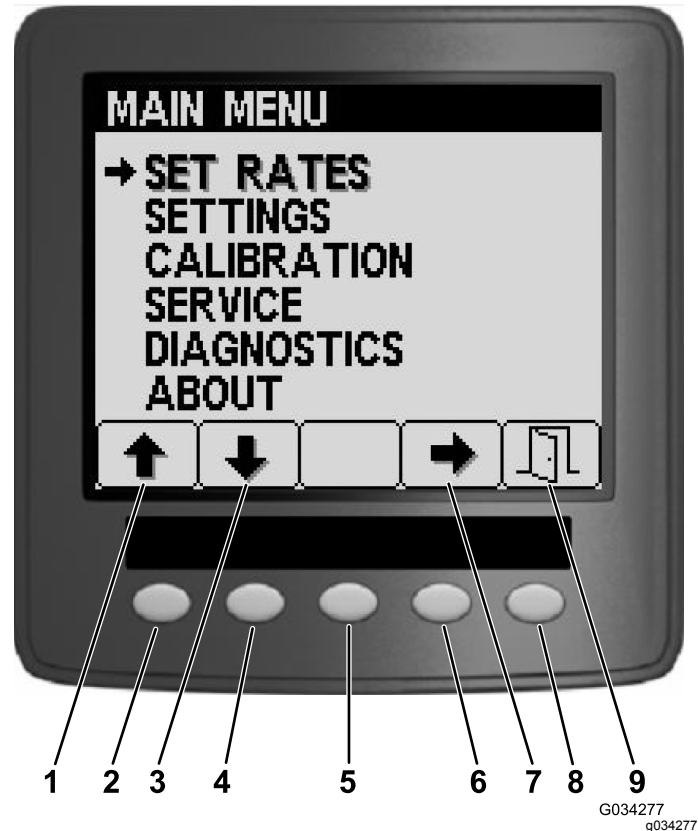
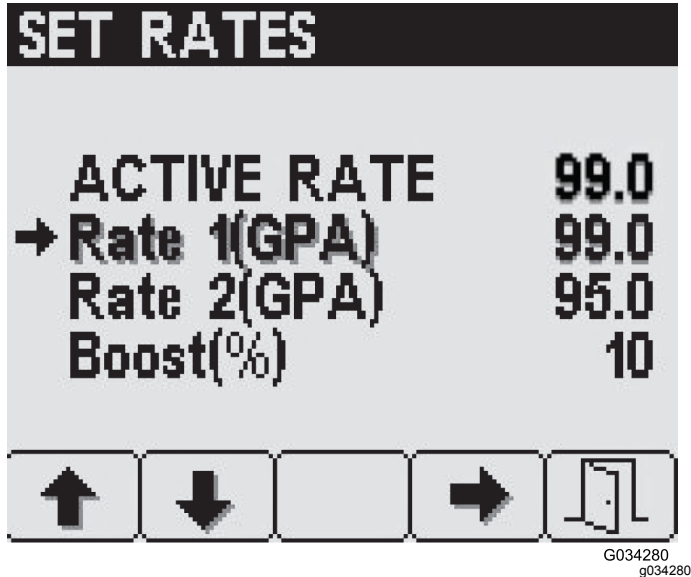
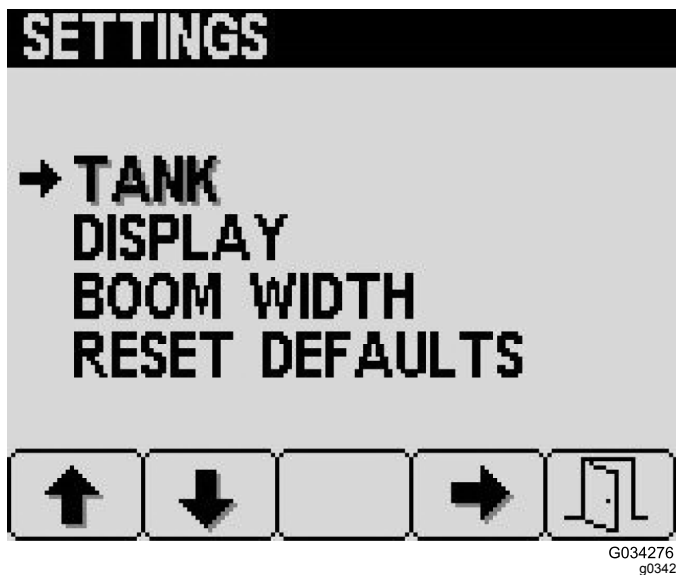

Figure 16
Figure 17
Figure 19
From the Main Menu screen, you can access the Set Rates screen, Settings screen, Calibration screen, Service screen, Diagnostics screen, or the About screen (Figure 16).
To access the Set Rates screen, press button 2 on the Main Menu screen (Figure 16) until you reach Set Rates and press button 4 to select Set Rates (Figure 17).
1. Press button 1 or 2 until you reach the desired rate or boost-rate percentage (Figure 17).
To access the Settings screen, press button 2 on the Main Menu screen (Figure 16) until you reach Settings and press button 4 to select Settings (Figure 19).
1. Press button 4 on the Settings screen to select Tank settings (Figure 19).
1. Press button 2 on the Settings screen until you reach Display settings and then press button 4 to select Display (Figure 19).
The boom-width settings are pre-populated at the manufacturing plant (Figure 19).